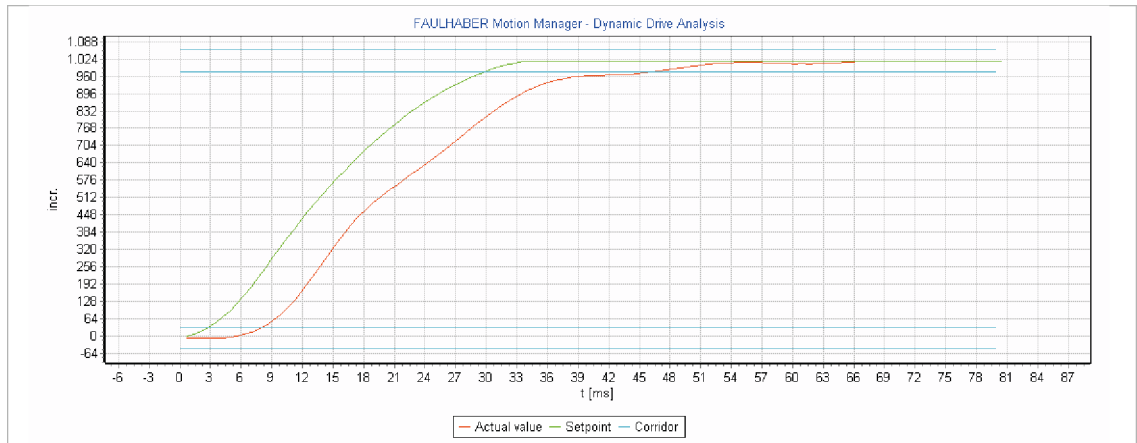

Fig. 5: Example of well-tuned dynamics
- ✚ The following tuning results are characteristic of well-tuned dynamics (see Fig. 5):